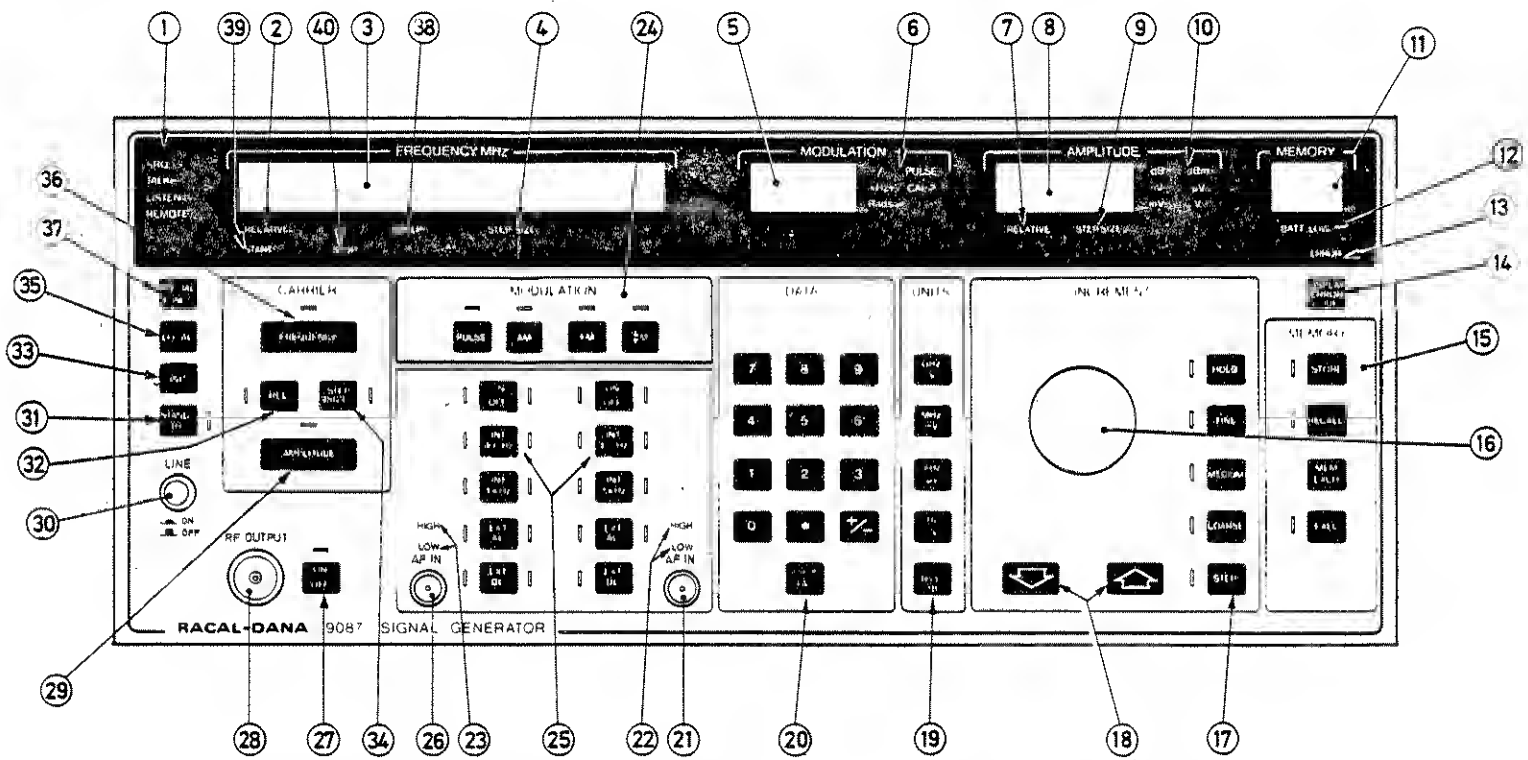
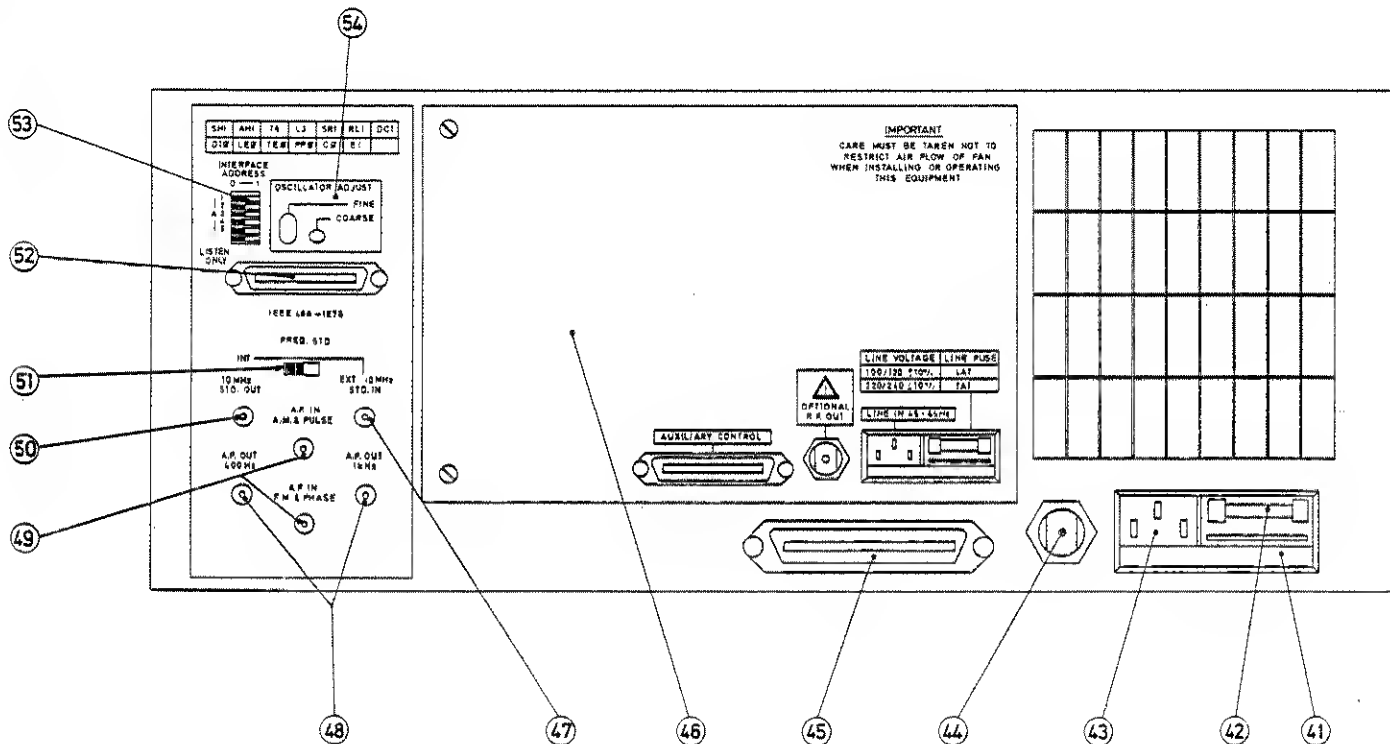

Fig. 4.1 Front Panel
Fig. 4.2 Rear Panel
4.2.1 Each group of controls or connectors described is numbered to correspond with the indicators on Fig. 4.1 (front panel) or Fig. 4.2 (rear panel). With the exception of the LINE switch the front panel keys are of the pressure sensitive membrane type. The numeric indicators are of the LEO dot-matrix type.